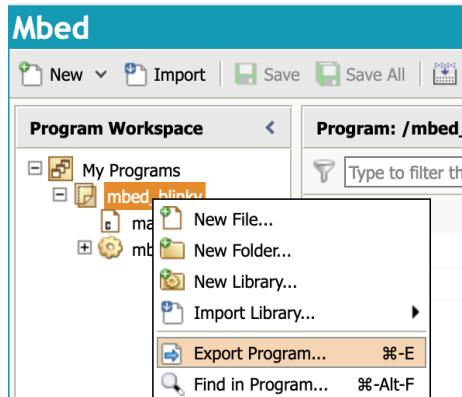

Figure 9: Export a program menu from the Mbed Compiler.
- I. In the Mbed Compiler, in the ‘Program Workspace’ on the left-hand side of the web page “right-click” on the program and select “Export Program” as shown in Figure 9.